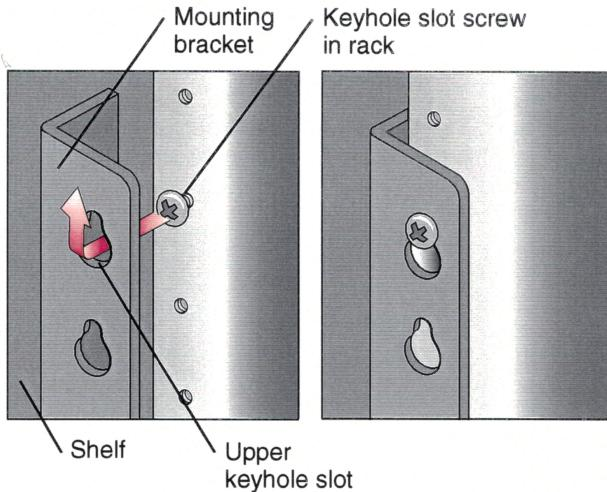

Figure 12 Use the Upper Keyhole Slot for an Upper-Shelf Installation
NOTE: The keyhole slots on the mounting brackets are grouped in pairs. To mount a shelf in the upper-shelf rack position in a 43 U rack, use the upper set of keyhole slots (the upper keyhole slot of each pair). See Figure 12.
3. Lift the shelf and align the appropriate keyhole slots of the shelf mounting brackets with the four keyhole slot screws associated with the upper-shelf rack position. These screws are located just under the top screw which is slotted for the PDU. Adjust the shelf until the narrow ends of each of the four keyhole slots rest on the screw shanks. Make sure all four screws are engaged with the keyhole slots. See Figure 12. Tighten the screws with a Phillips screwdriver while making sure the shelf is firmly in place and is fully in contact with the rack.